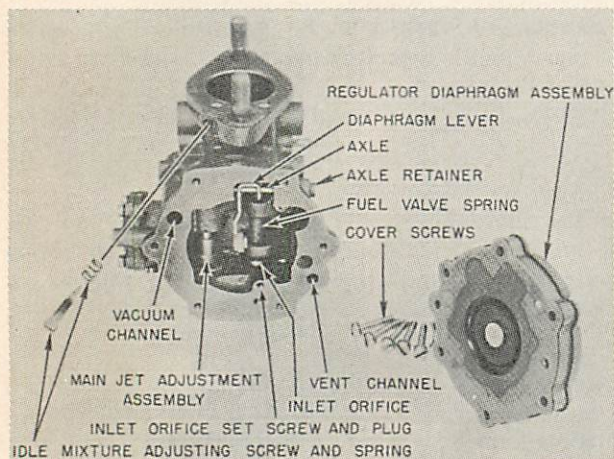

**Fig. O71 — To test vaporizer assembly, install pressure gage and line as shown. Refer to text for procedure.**
95. **PRESSURE AND LEAKAGE TESTS.** To conduct pressure and leakage tests, proceed as follows: Install a pressure gage capable of registering at least 30 psi in the vaporizer outlet as shown in Fig. O71. Connect the vaporizer inlet to a source of compressed air, loosen the previously installed gage until leakage occurs, then retighten gage. Gage should register